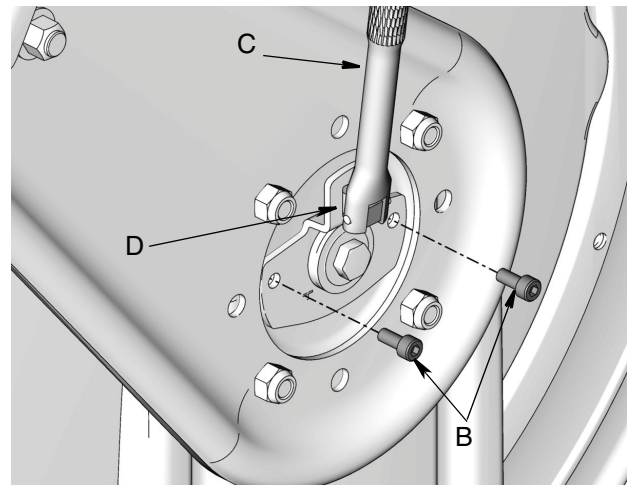

FIG. 12
3. Insert ratchet (C) in slot (D) first, then entirely remove screws (B) (FIG. 12).